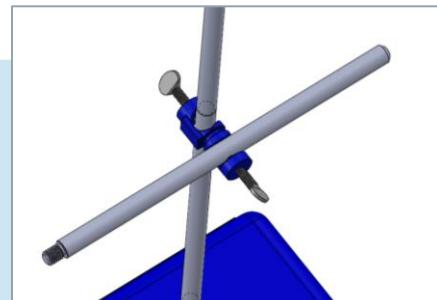

**Figure 4.** Connect the Two Remaining Rods
3. Take the two remaining Rods (**A**) and tighten them together (Figure 4).